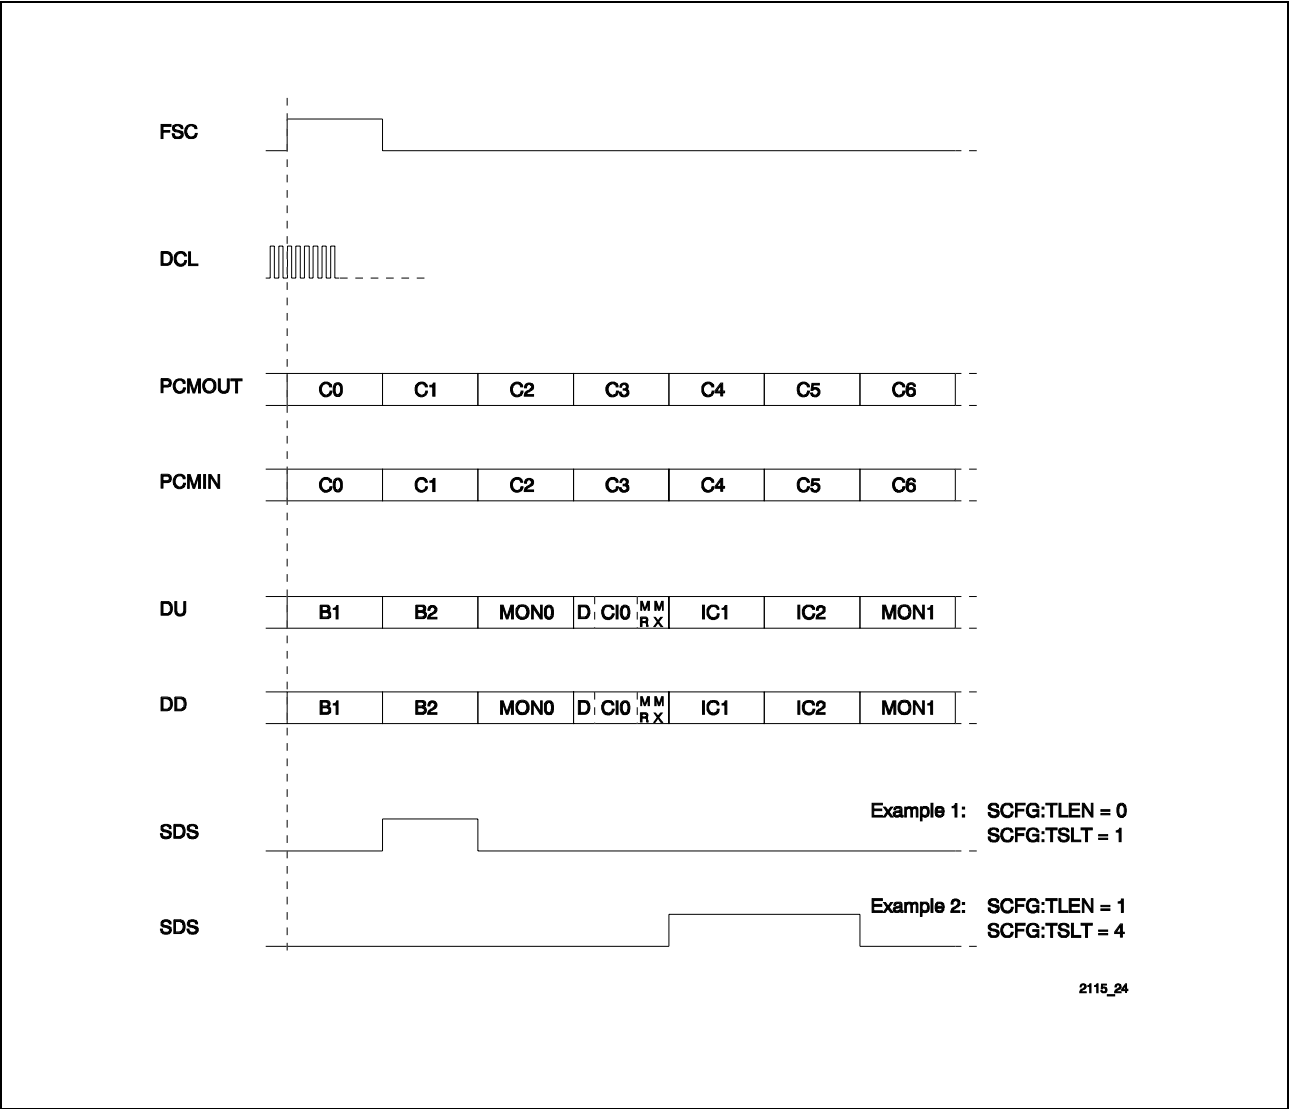

Figure 54 Data Strobe Signal Generation
**Figure 54** shows two examples for the generation of a strobe signal. In example 1 the SDS is active during channel B2 on IOM-2 and during channel 1 (C1) on PCM, whereas in the second example SDS goes high during IC1 and IC2 on IOM-2 and during channel 4 and 5 (C4, C5) on PCM.